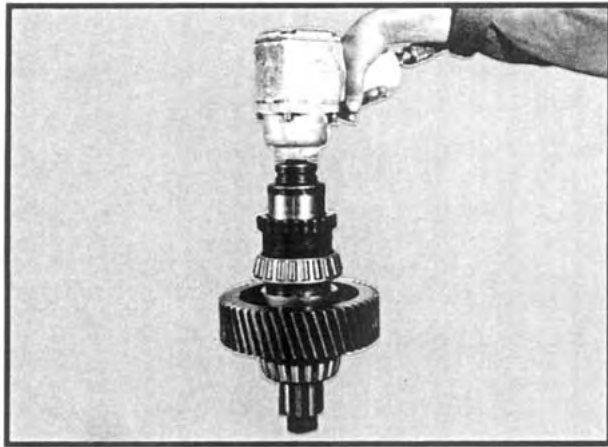

Fig 20
3. Remove the clutch gear retaining locknut with an impact wrench. See Figure 20. Slide off the clutch gear.